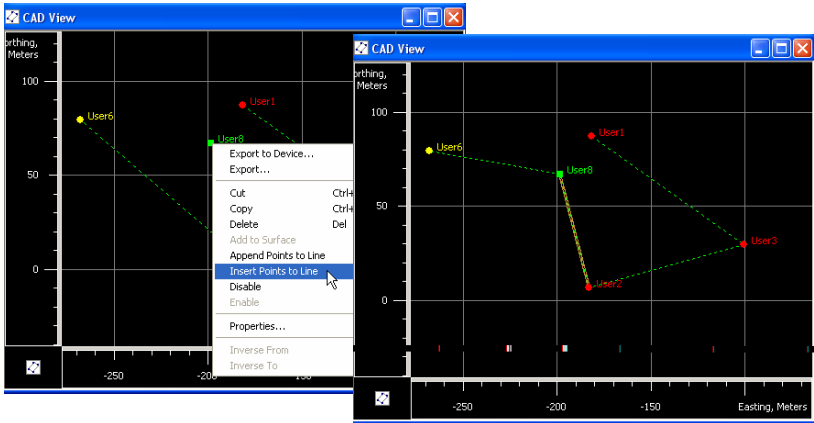

Figure 5-38. Example of Inserting Points to the Line
- Right-click an existing point in the Cad View and click **Insert Points to Line** on the pop-up menu (Figure 5-38).
The Cad View and the *Lines* tab display new line segments from the start point of the selected segment to this point, and from this point to the end point of the selected segment (Figure 5-38 on page 5-35).